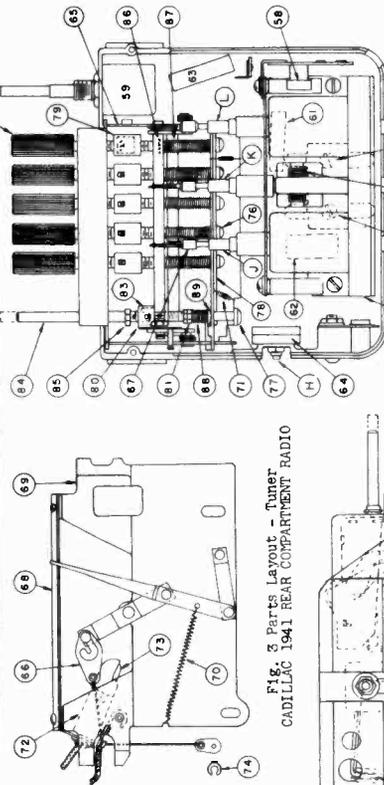

Fig. 3 Parts Layout - Tuner
- Adjust the oscillator coil iron core aligning screw (illus. H, Fig. 3) while rocking the condenser gang back and forth through the signal until maximum output is obtained.